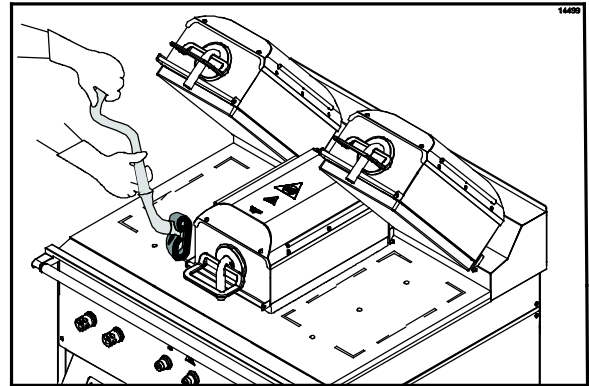

Figure 92
- Apply the grill cleaner to both sides of the center platen. (See Figure 92.)